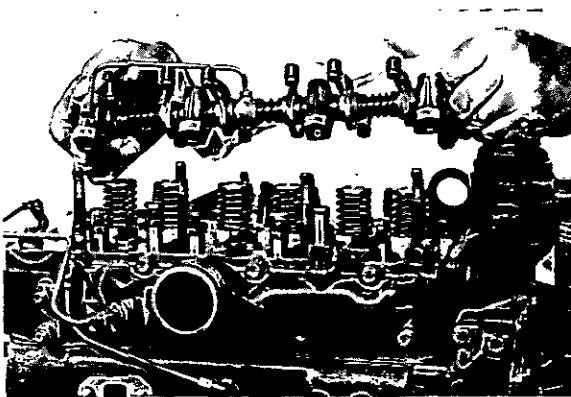

Fig. C.2
14. Disconnect oil pipe to rocker shaft and remove rocker shaft assembly, complete with oil pipe (Fig. C.2).